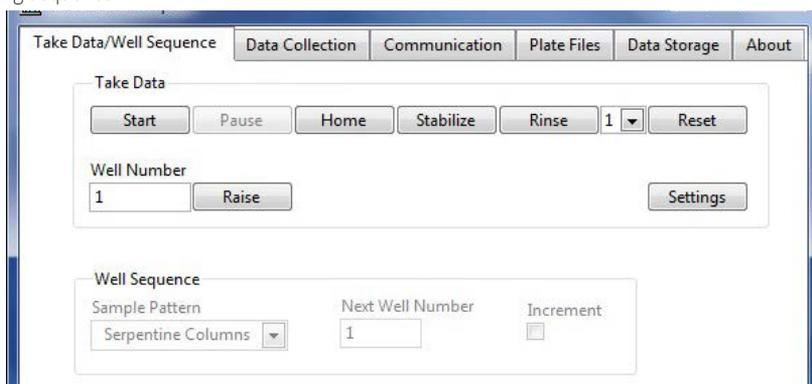

Fig. 17 — Take Data Tab
**Rinse**: **REMS AutoSampler** is equipped with two rinsing stations. Click this button to move the electrode to the rinse station indicated by the drop down list next to the rinse button. In the setup shown in Fig. 17, the electrode parks in Rinse Station 1 when you press **Rinse**. No resistance measure is displayed when this button is clicked.